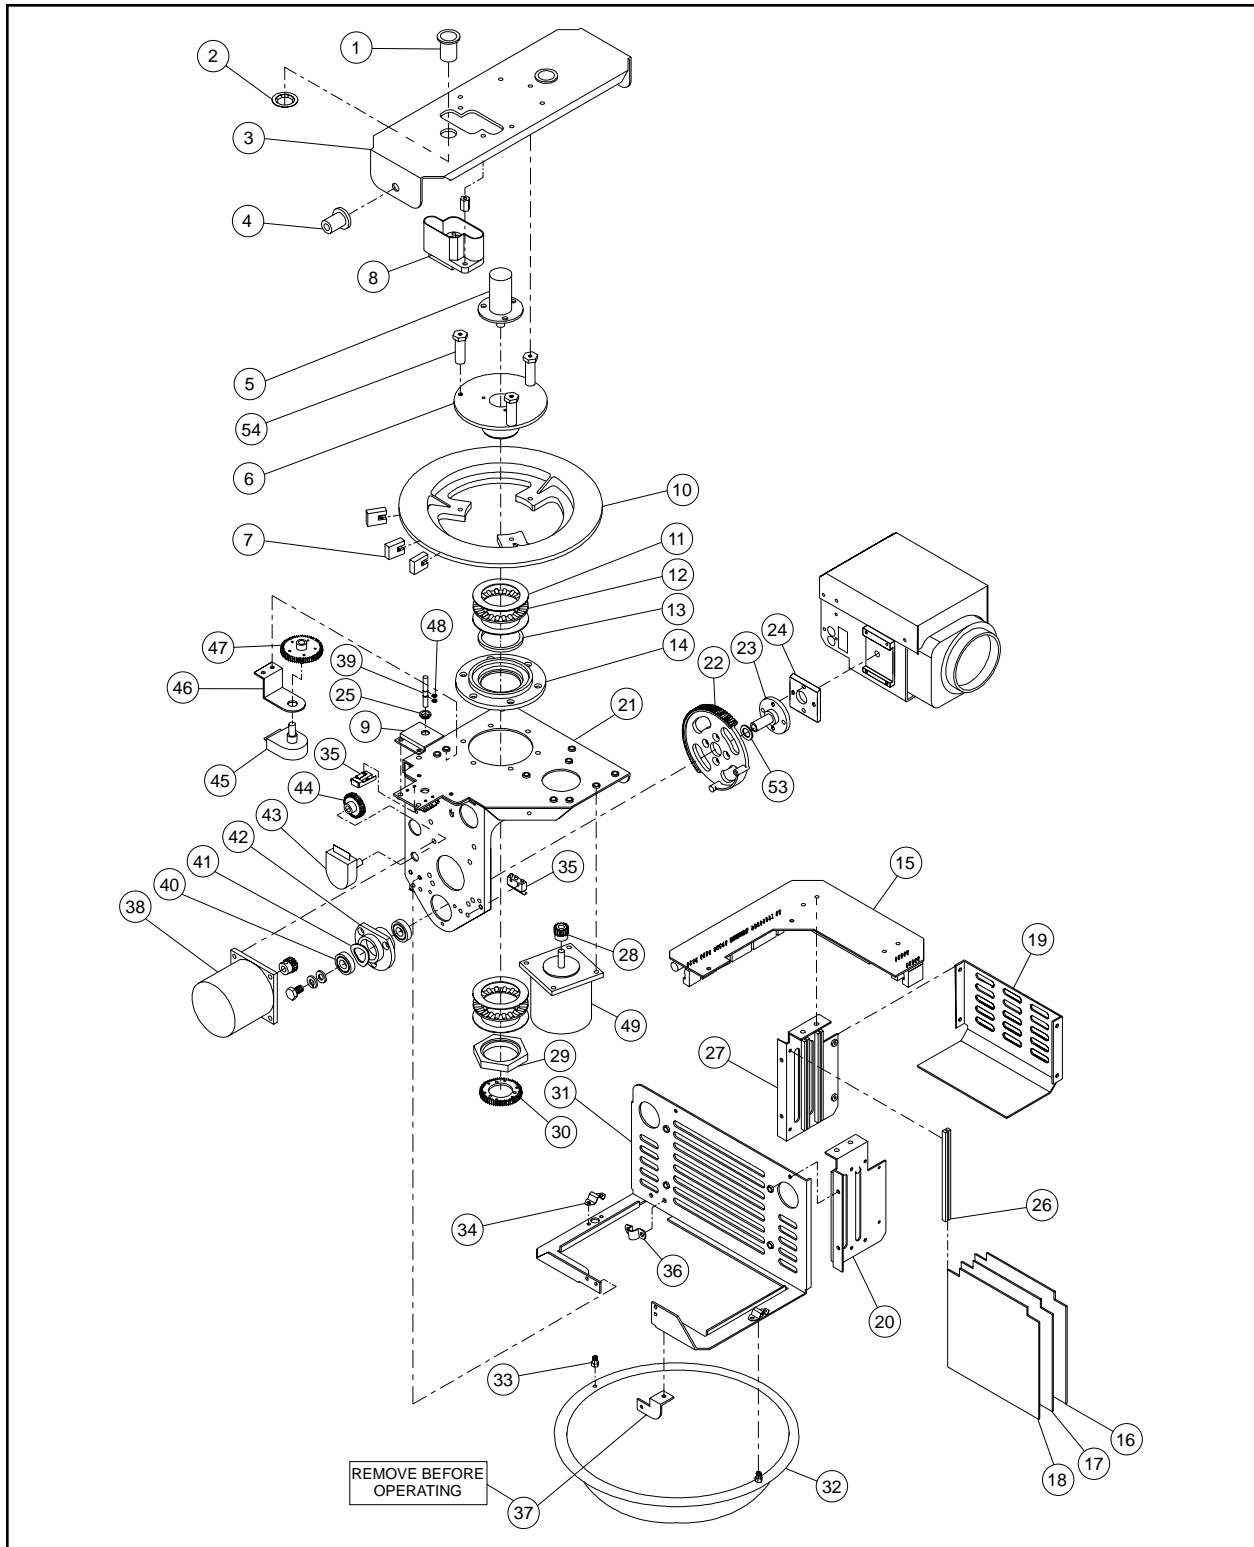

Figure 6. DD08 Series Dome Drive Exploded Assembly Diagram (Mechanical)
1. Refer to Figure 6 and remove the shipping bracket (item 37).